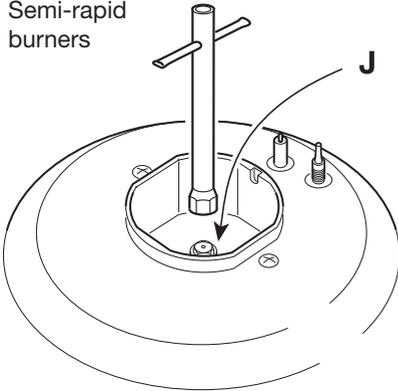

Fig. 9.4
- Using a wrench, substitute the nozzle injectors “J” (figs. 9.4, 9.5, 9.6) with those most suitable for the kind of gas for which it is to be used.